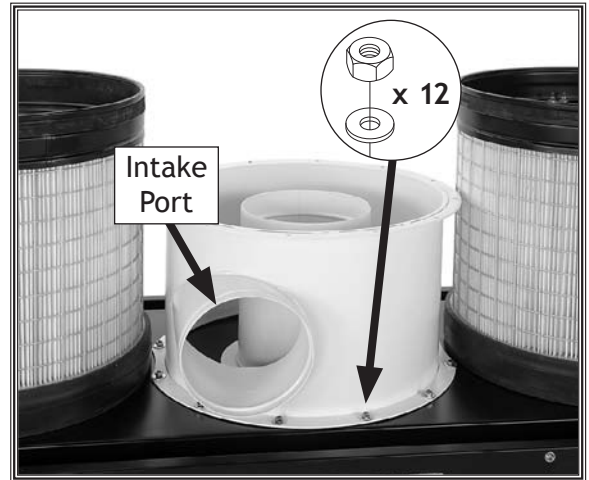

Figure 10. Intake barrel attached to the blower housing.
4. Orient the intake barrel on the blower housing as shown in **Figure 10**, then secure it in place with (12) $\frac{5}{16}$ "-18 x $\frac{3}{4}$ " hex bolts and (12) $\frac{5}{16}$ " flat washers.